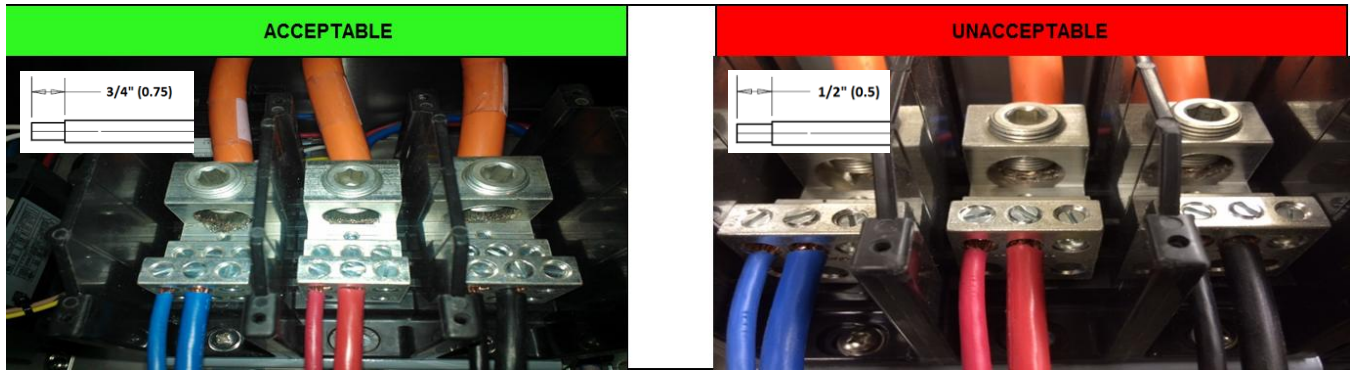

Figure 4: Insulation Cut back reference
5. One at a time remove the BAE accessory cable and inspect if the cable insulation is cut back (stripped) to $\frac{3}{4}$ ". If the insulation is stripped less than $\frac{3}{4}$ ", cut back (strip) the insulation to $\frac{3}{4}$ ". See Figure 4 for reference. No need to rework the cable if the insulation is stripped $\frac{3}{4}$ ". Re-install the cable and torque line side to 32 Nm (275 in-lbs). Repeat this step on all three cables.